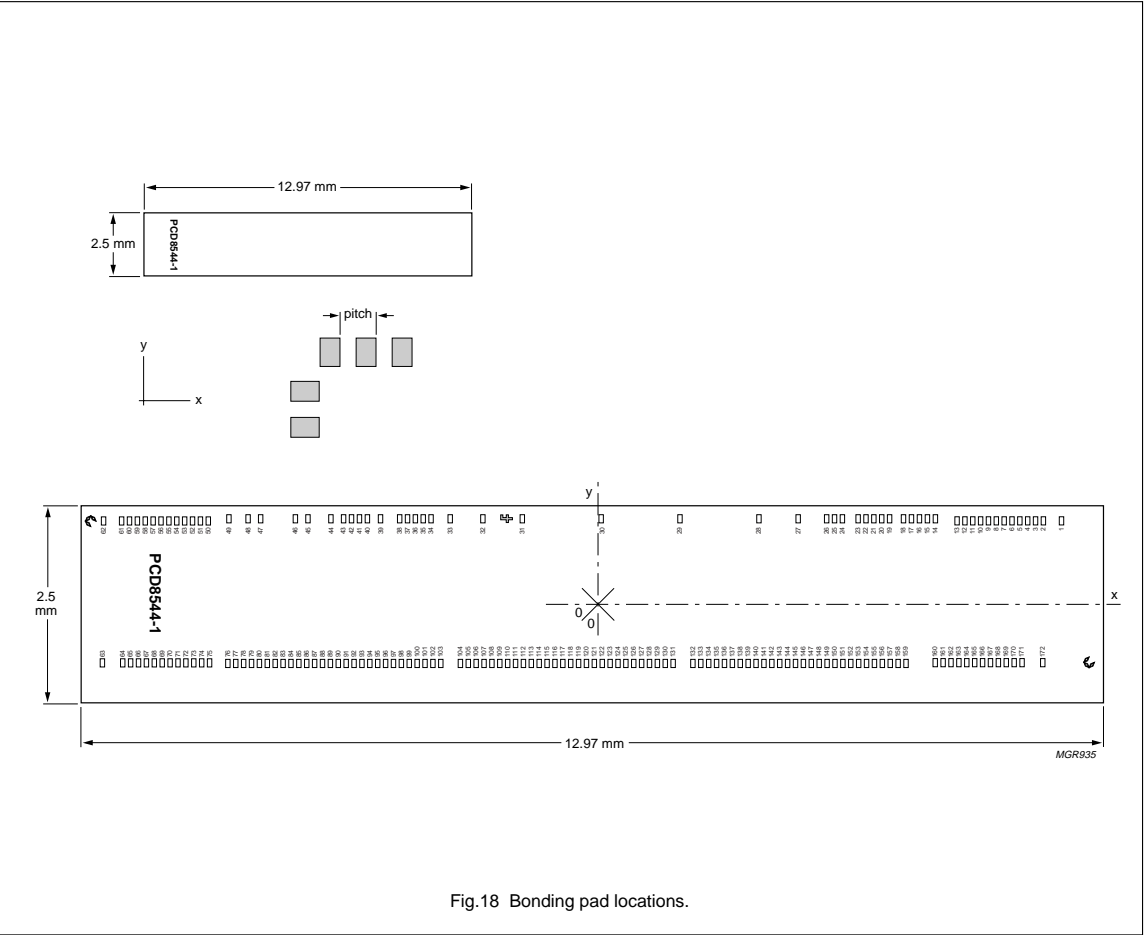

Fig.18 Bonding pad locations.
14.1 Bonding pad information (see Fig.18)
of chip (see Fig.18)